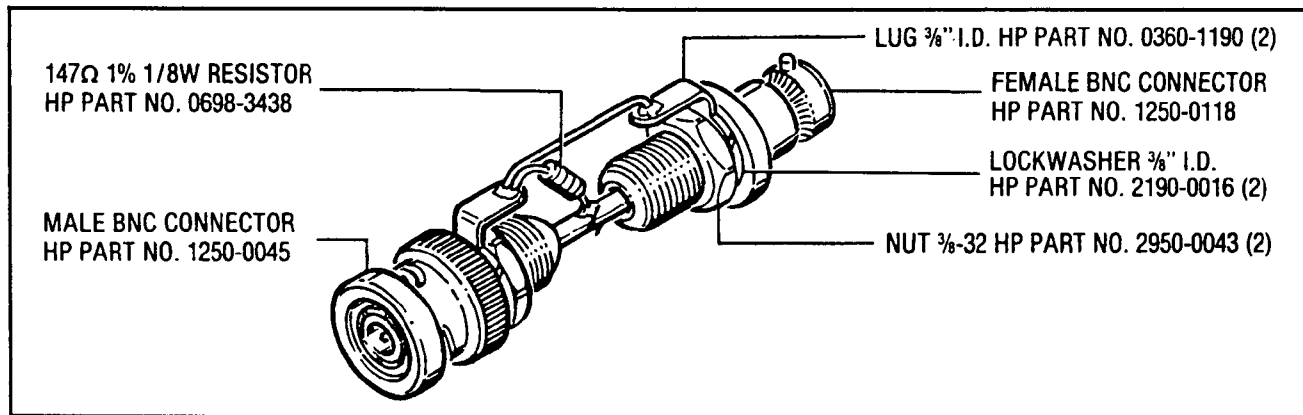
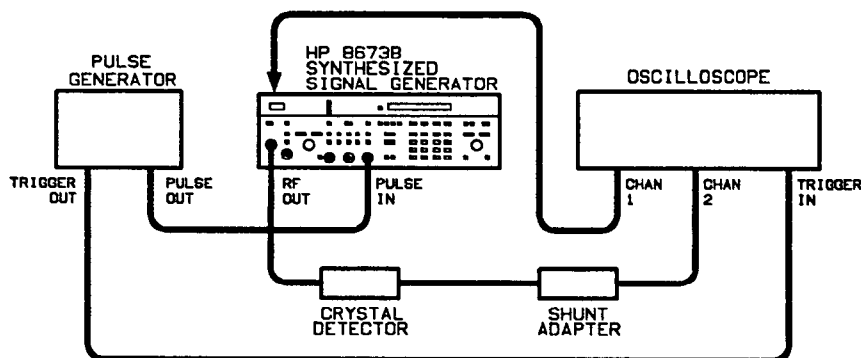

Figure 5-36. Pulse Shunt Adapter
Figure 5-37. ALC Sample Pulse Adjustment Test Setup
Shunt Adapter .....	Fabricated Locally (see figure 5-36)
6. Connect channel 2 to the shunt adapter (figure 5-36) output as shown in figure 5-37. The cable between the oscilloscope and the shunt adapter must not be longer than 24 inches.
The shunt adapter can easily be fabricated using 2 BNC connectors and a 147 ohm resistor as shown in figure 5-36.
(see figure 5-36)